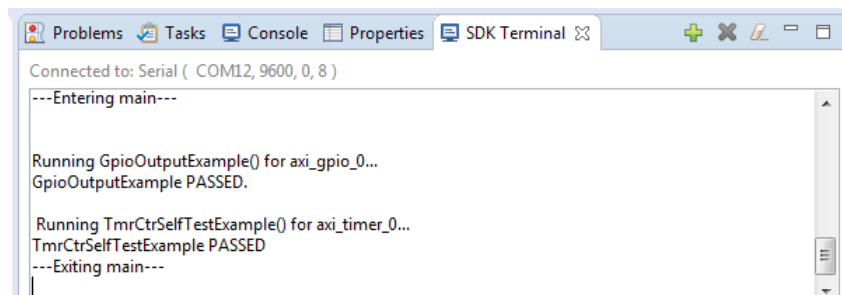

Figure 45: Terminal Output via the Serial Connection
5. Your terminal window should now receive text from the board, similar to Figure 45. Try pushing the red **CPU RESET** button on the Nexys-4 board and examine both the LEDs and the terminal output.